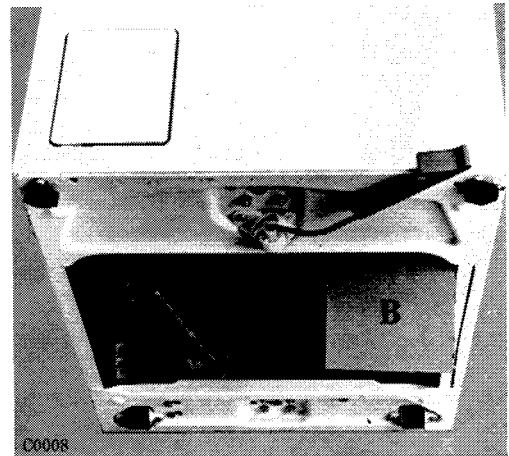

fig. 2
4. Tilt the machine backwards and remove the two inner angle packings by pulling the two cardboard bands (fig. 2). Pull out the right band B first and then the left band A.